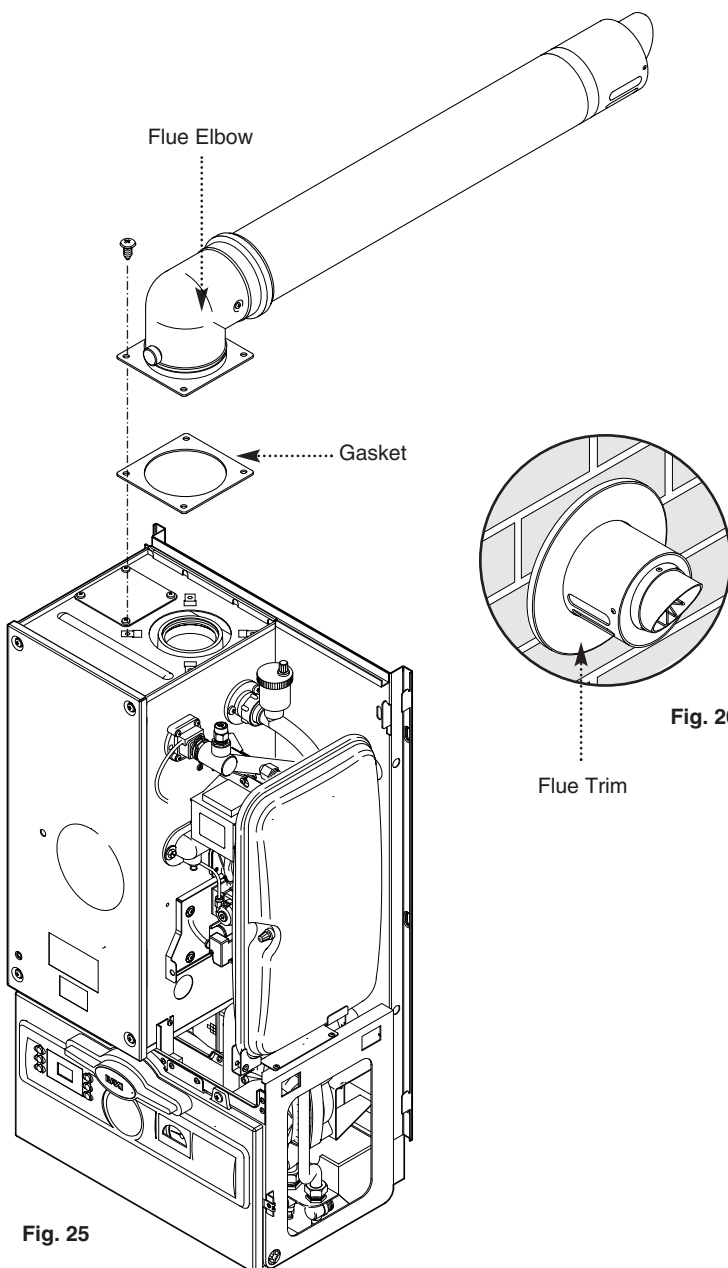

Fig. 25
9. Engage the flue into the flue elbow using soap solution to ease the engagement ensuring the flue is assembled as shown (Fig. 25).
10. Place the gasket over the flue exit on the boiler (Fig. 25).